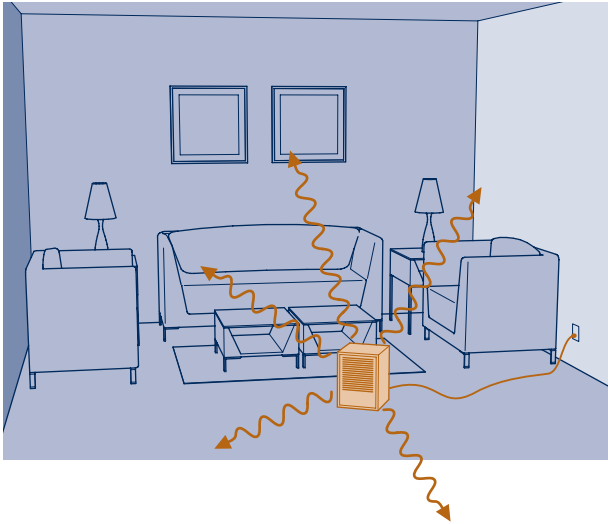

Fig. P2.10D
2.10D An advertisement describes a portable heater claimed to cut home heating bills by up to 50%. The heater is said to be able to heat large rooms in minutes without having a high outer-surface temperature, reducing humidity and oxygen levels, or producing carbon monoxide. A typical deployment is shown in Fig. P2.10D. The heater is an enclosure containing electrically-powered quartz infrared lamps that shine on copper tubes. Air drawn into the enclosure by a fan flows over the tubes and then is directed back into the living space. According to the advertisement, a heater capable of heating a room with up to 300 ft² of floor area costs about \$400 while